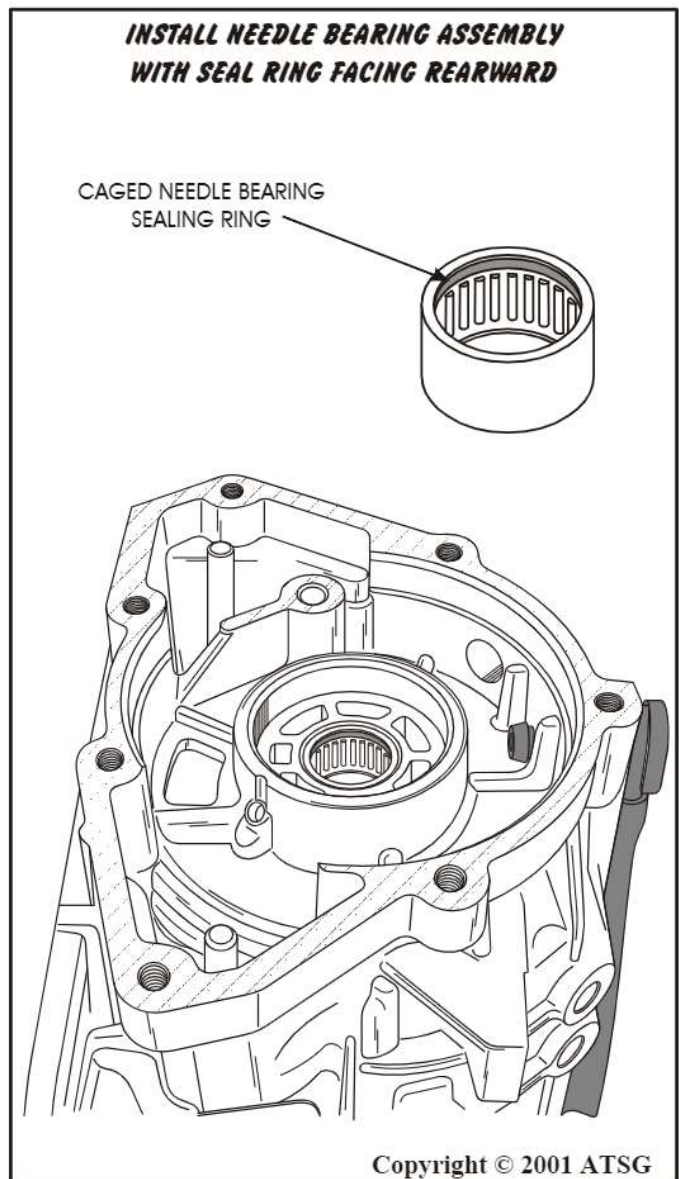

Figure 127
2. Inspect the rear case caged needle bearing and replace as necessary using the appropriate tools to remove and install (See Figure 127).
Note: If replacement is necessary ensure that the sealing ring end of the bearing faces rear, as shown in Figure 127.